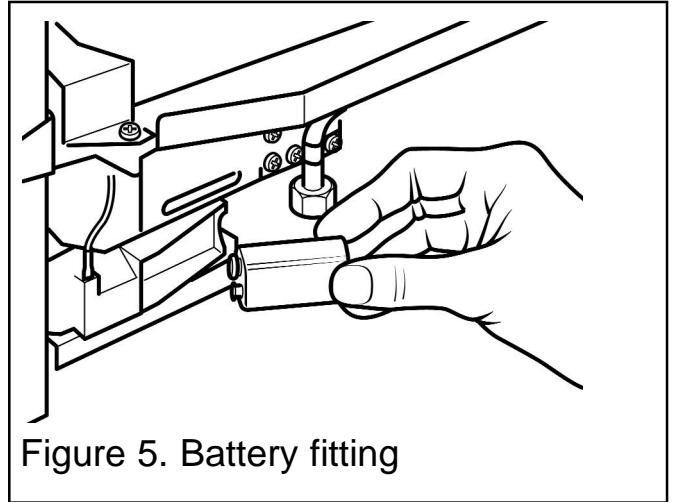

Figure 5. Battery fitting
Fit the new battery firmly to the connections on the ignition block (See figure 5).
1. Fire serial number and fascia code (Located on the information label - See figure 5 on page 67).
Serial number (Can be found on information label - See figure 5)